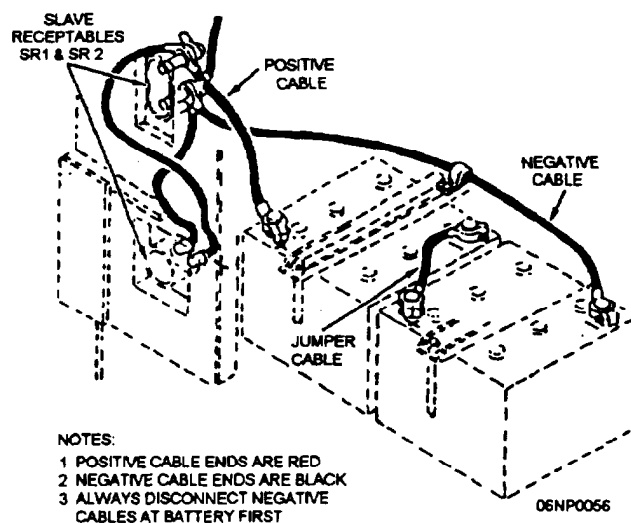
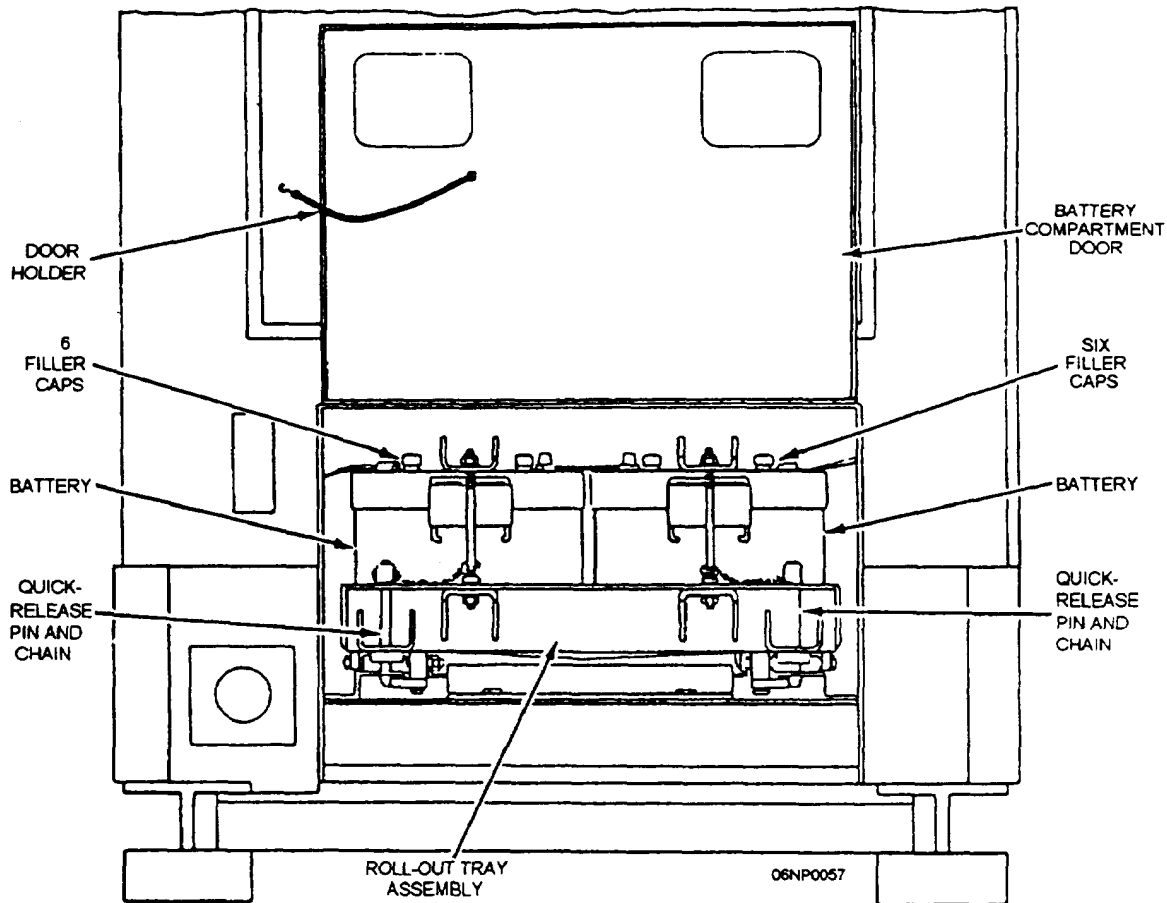

Figure 3-2.—Battery cable connections and slave receptacles.
Figure 3-3.—Battery compartment.
Do not smoke or use an open flame in the vicinity of batteries when servicing them. Batteries generate hydrogen a highly explosive gas. When removing batteries, always remove both negative cables before removing the positive cables (fig. 3-2).
The 60-kW generator set is equipped with two 12-volt, 100-ampere-hour batteries. The batteries are located under the radiator (fig. 3-1, view A) on a roll-out tray (fig. 3-3). They are connected in series to supply 24 volts dc for starting the generator set and operating direct current components. Two slave receptacles (fig. 3-2), connected in parallel, permit easy connection to the batteries to supply or obtain battery power. As we
discuss activating the batteries, refer to steps 1 through 3 (following) and figure 3-3.
After the battery has been charged, connect the battery into the starting system of the prime mover, as shown in figure 3-2. Always connect the negative cable last.
4. Push in the roll-out tray assembly and install the quick-release pins (fig. 3-3).